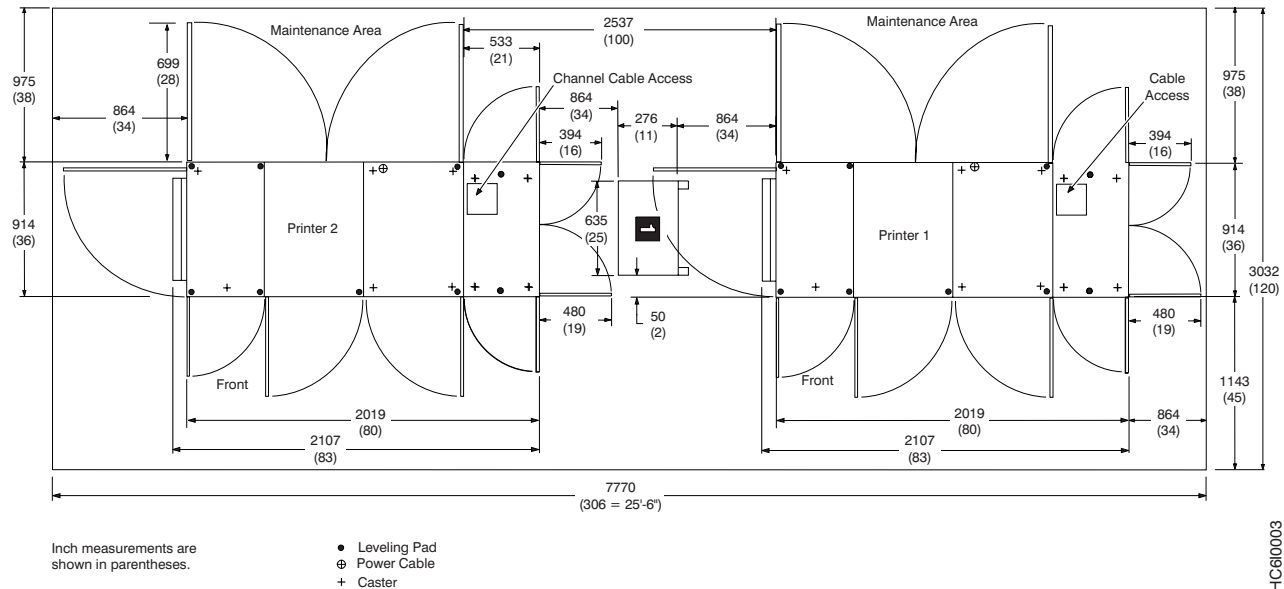
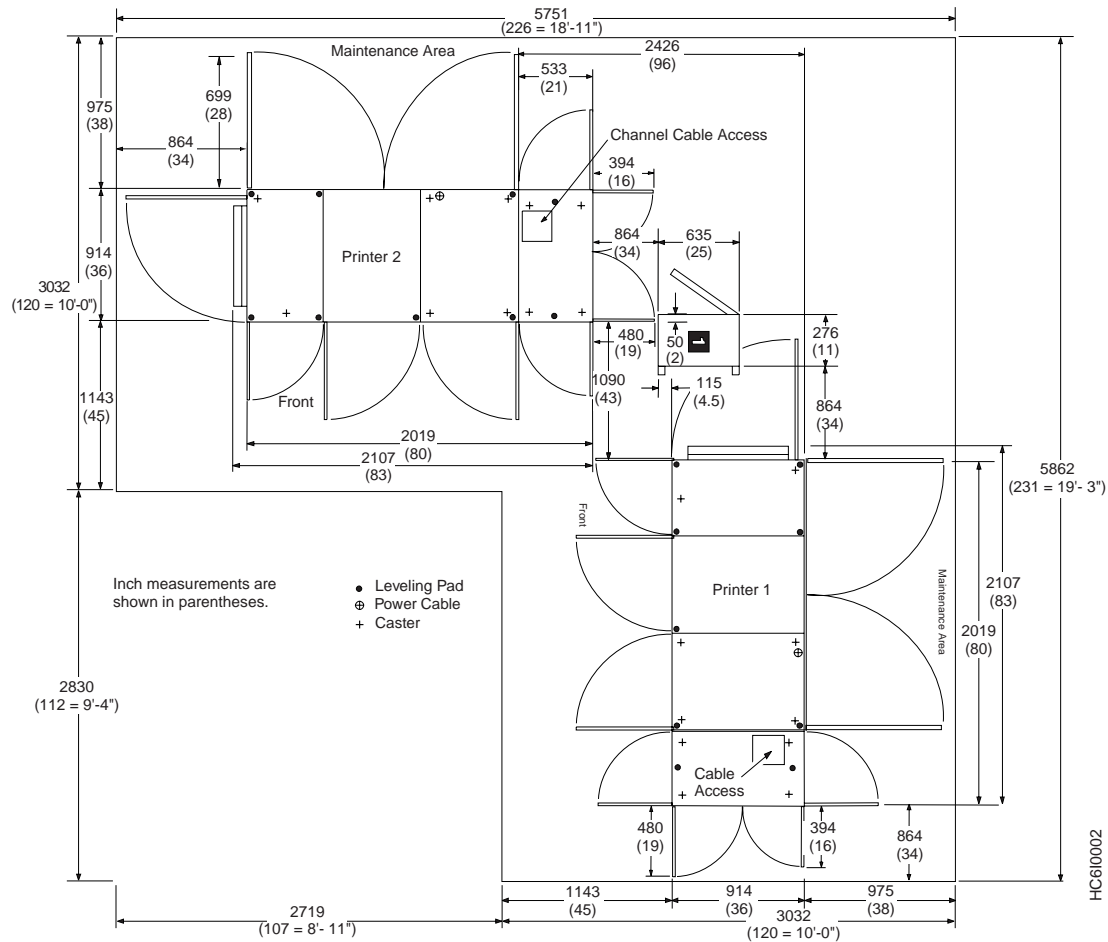

Figure 10. Models ED1/ED2 Inline Configuration
Figure 11. Models ED1/ED2 Left Angle Configuration
The dimensions of the Duplex Printing System and the Buffer/Flipper Unit **1**, the optimum separation of the units, the service clearance around the allowable configurations of these units, and the power cable and channel cable locations are shown in Figure 10 and Figure 11 on page 111 for Models ED1/ED2.
- Ensure that approved electrical outlets with correct power are reserved for the printer, and that they can be reached with the power cables. The approximate locations of the printer power cable and the channel cable areas are shown in Table 12 on page 109 for simplex printers and in Figure 10 on page 110 for duplex configurations.